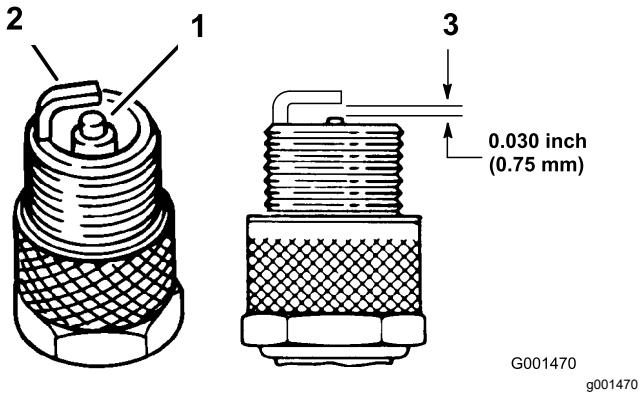

Figure 24
1. Look at the center of the spark plugs (Figure 24). If you see light brown or gray on the insulator, the engine is operating properly. A black coating on the insulator usually means that the air cleaner is dirty.
2. Check the gap between the center and side electrodes (Figure 24). Bend the side electrode (Figure 24) if the gap is not correct.
3. Connect the wires to the spark plugs (Figure 24).